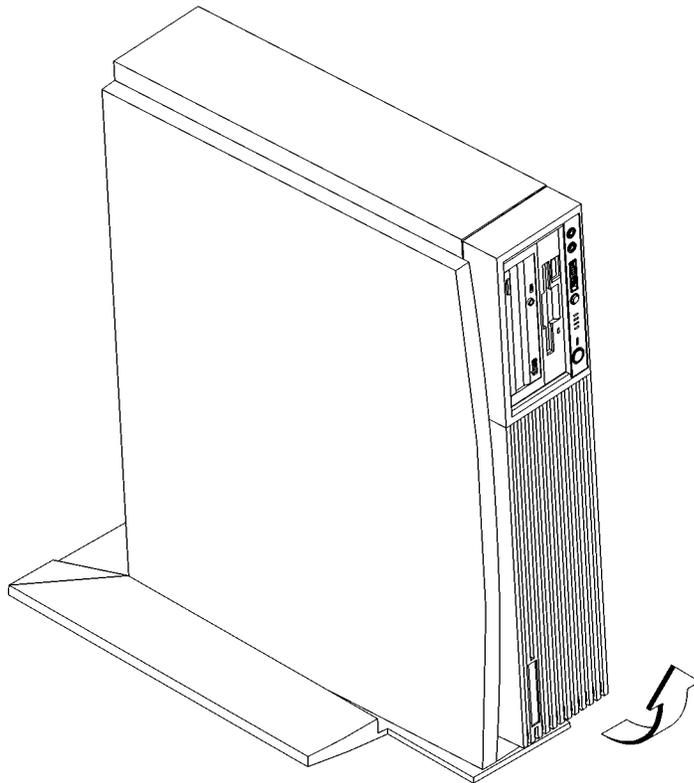

Figure 25 **Removing the Floor Stand**
- 5 Remove the floor stand from the system unit, as shown in Figure 25.